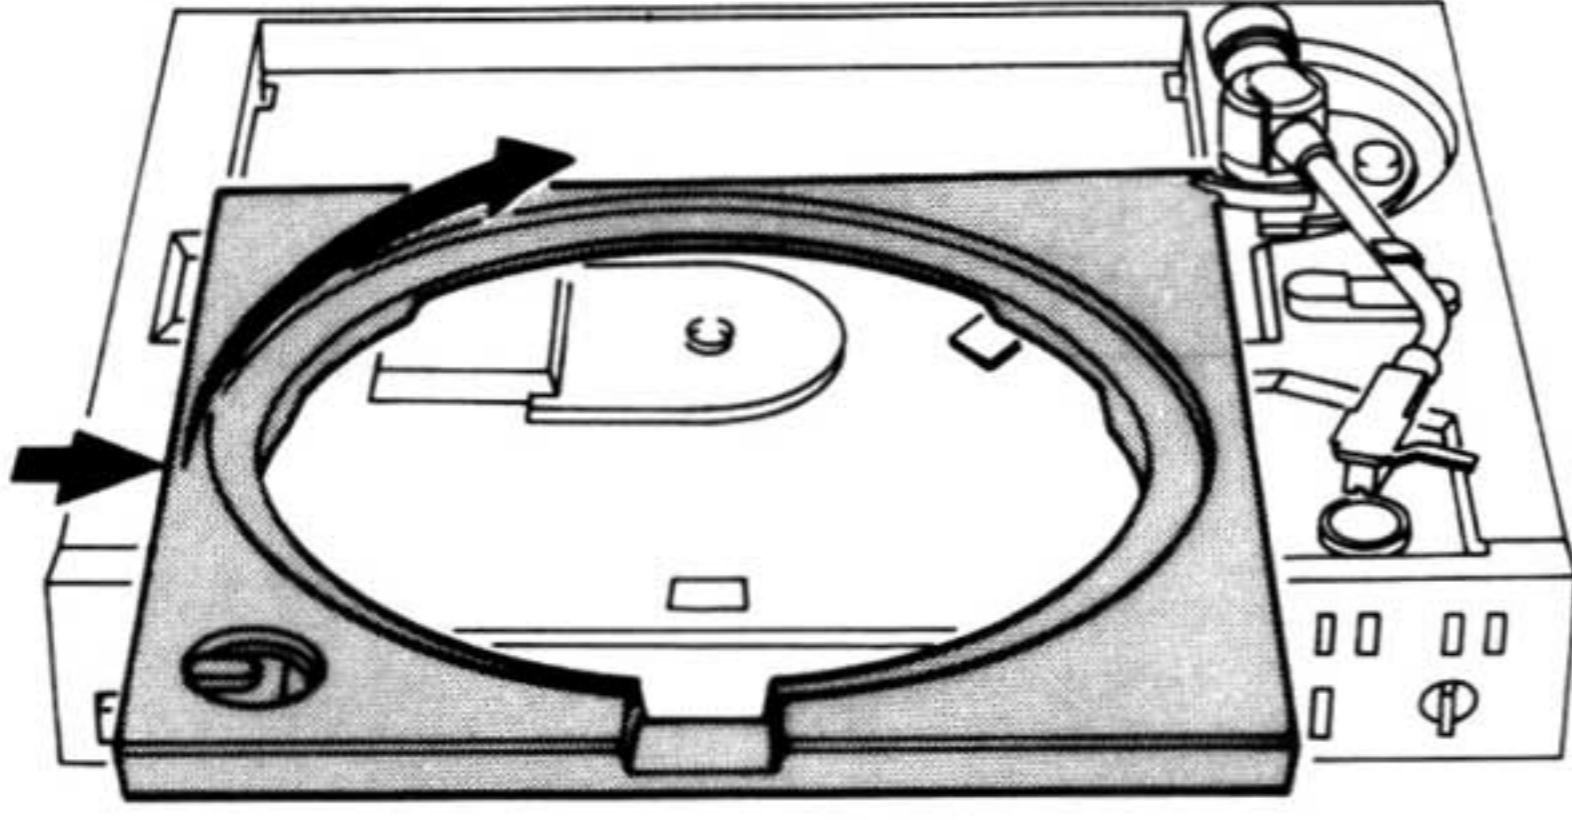

Fig. 1
- 3) Press the left side of the tray as shown by the arrow and lift off. (See figure 1)
- 2) Remove the tray (See figure 1)